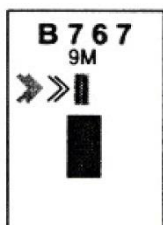

Figure 3
3.5 When the aircraft is 12M from the stop position, closing rate information is given. "Distance to go" is indicated by turning off one row of LEDs (Laser Electronic Displays) for each one half meter that the aircraft advances towards the stop position. From 9m to the stop position, a digital display will indicate the distance from the stop position for every 1M. At 2M from the stop position, the display will indicate the distance from the stop position for every 0.2M (see figure 3, 4 and 5).